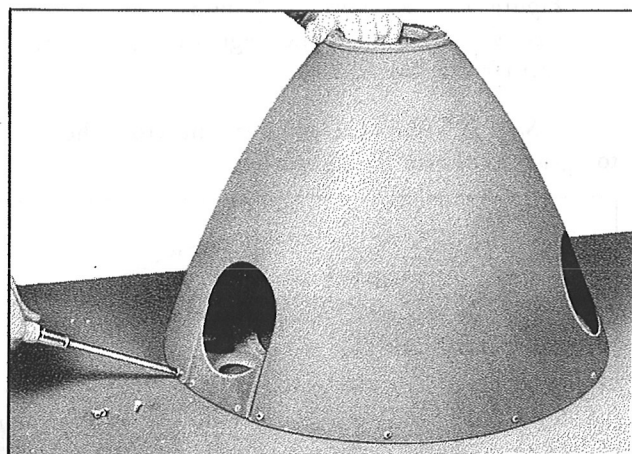

Figure 125—Assembly of Spinner Shell to the Bulkhead
**Step 3.**—To prevent mixup, assemble the spinner shell to the bulkhead, using the proper attaching screws, as shown in Figure 125.